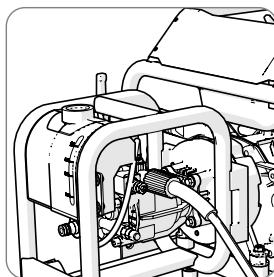

Fig 3
- Push the hose into the relevant port. (**Fig. 3**)